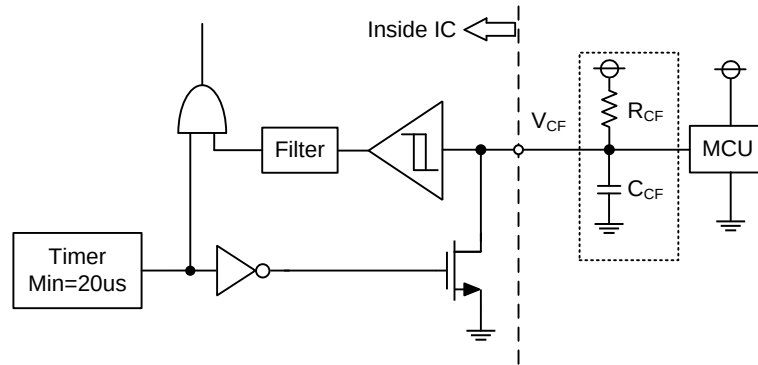

Figure 5. V_{CF} Output Circuit
- (1) If the control GND is connected with the power GND by common broad pattern, it may cause malfunction by power GND fluctuation. It is recommended to connect the control GND and power GND at a single point (N1), near the terminal of the shunt resistor.
- (2) There are two COM pins in the IPM but it is recommended to only use the (15) COM pin to minimize SC detection noise.
- (3) A zener diode D1 (24V/1W) is recommended between each pair of control supply pins to prevent surge destruction.
- (4) Prevention of surge destruction can further be improved by placing the bus capacitor as close to pin P and N1 as possible. Generally a 0.1-0.22μF snubber capacitor C3 between the P-N1 terminals is recommended.
- (5) Selection of the R1*C4 filter components for short-circuit protection is recommended to have tight tolerance, and is temperature-compensated type. The R1*C4 time constant should be set such that SC current is shut down within 2μs; (typically 1.5-2μs). R1 and C4 should be placed as close as possible to the C_{SC} pin. SC interrupting time may vary with layout patterns and components selection, therefore thorough evaluation in the system is necessary.
- (6) Tight tolerance and temperature-compensated components are also recommended when selecting the R2*C5 filter for V_{OT}. The R2*C5 time constant should be set such that V_{OT} is immune to noise. Recommended values of R2 and C5 are 2kΩ and 10nF.
- (7) To prevent malfunction, traces A, B, and C should be as short as possible.
- (8) It is recommended that all capacitors are mounted as close to the IPM as possible. (C1: electrolytic type with good temperature and frequency characteristics. C2: ceramic type with 0.1-2μF, good temperature, frequency and DC bias characteristics.)
- (9) Input drives are active-high. There is a minimum 3.5k Ω pull-down resistor in the input circuit of IC. To prevent malfunction, the layout to each input should be as short as possible. When using RC coupling circuit, make sure the input signal levels meet the required turn-on and turn-off threshold voltages.
- (10) V_{CF} output is open drain type. It should be pulled up to MCU or control power supply (max= 5 $\pm$ 0.5V), limiting the current (I_{CF}) to no more than 1mA. I_{CF} is estimated roughly by the formula of control power supply voltage divided by the pull-up resistor R3. For example, if control supply is 5V, a 10k Ω (over 5k Ω) pull-up resistor R3 is recommended.
- (11) If only a pull-up resistor R3 of 10k Ω connected to V_{CF} pin, the fault output pulse width is fixed at minimum 20 μ s. If a capacitor C6 is connected with a pull-up resistor R3, the fault output pulse width can be controlled according to the resistor value and capacitor value. For the design guide, please refer to the Figure 5.
- (12) Direct drive of the IPM from the MCU is possible without having to use opto-coupler or isolation transformer.
- (13) The IPM may malfunction and erroneous operations may occur if high frequency noise is superimposed to the supply line. To avoid such problems, line ripple voltage is recommended to have $dV/dt \leq \pm 1V/\mu s$, and $V_{ripple} \leq 2V_{p-p}$.
- (14) It is not recommended to use the IPM to drive the same load in parallel with another IPM or inverter types.